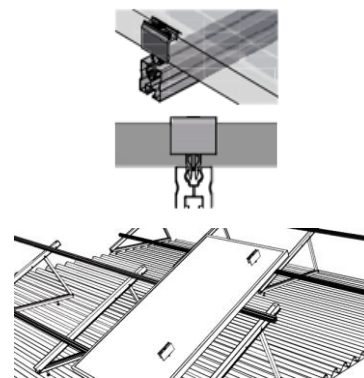

Fig 4.3.1B Positioning first module
- II. Position first module and secure using pre-positioned end clamps, do not tighten [Fig 4.3.1B].